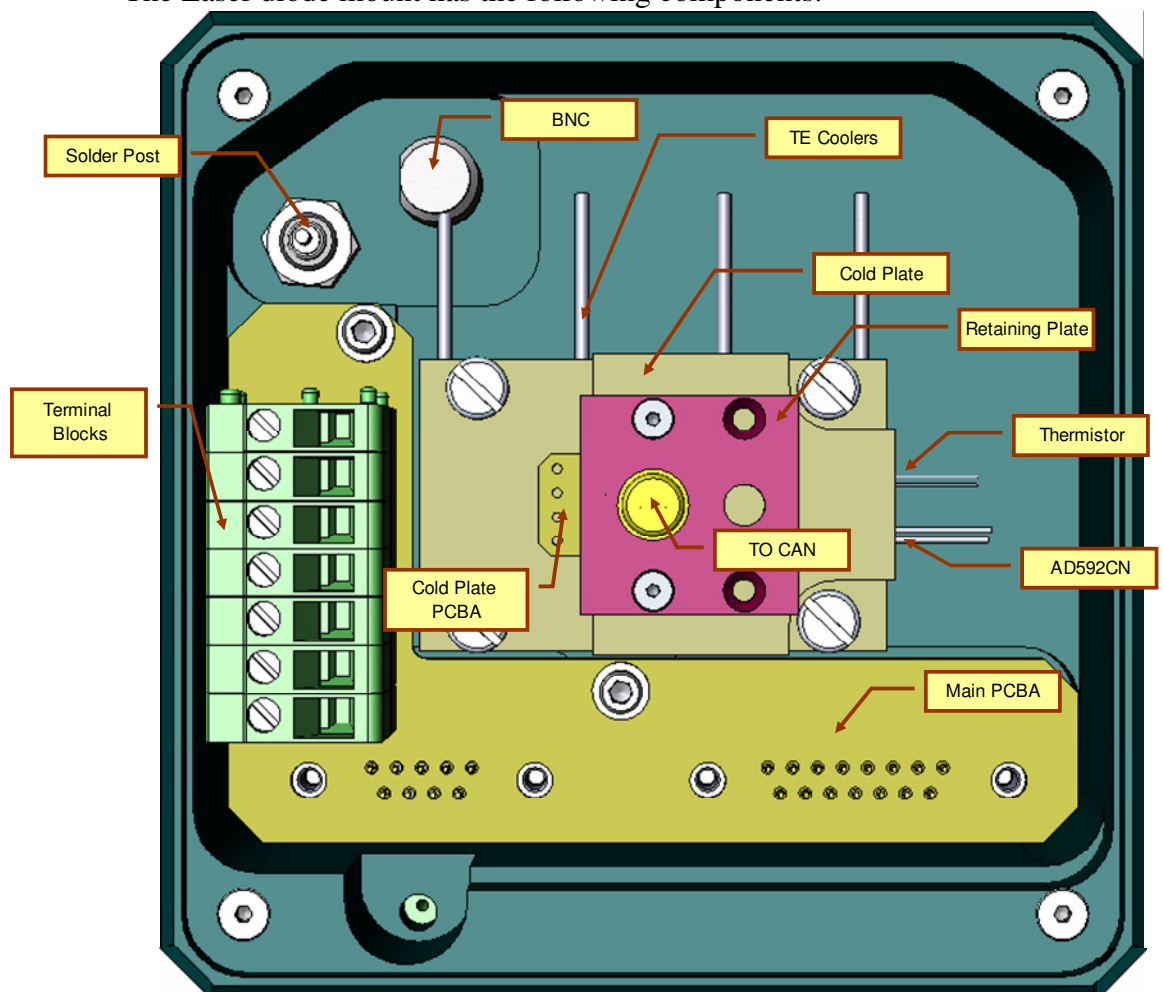

Figure 3 Model 710 internal view
1. LD configuration in figure 3, laser diode on the left is used for the example.